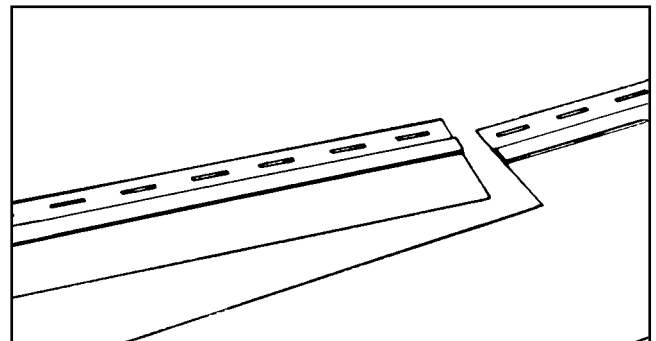

Fig 6.10
6. FITTING AROUND WINDOWS AND DOORS Mark the area to be removed from the siding panel. Remember to keep a 1/4" clearance within J-Channels on either side of the window or door for adjustment and expansion. Cross cut the sides with a hand saw or tin snips (Fig. 6.9) and score lengthwise with a utility knife or scoring tool (Fig. 6.5). Bend section back-and-forth along scored line and snap out unneeded section (Fig.6.10).